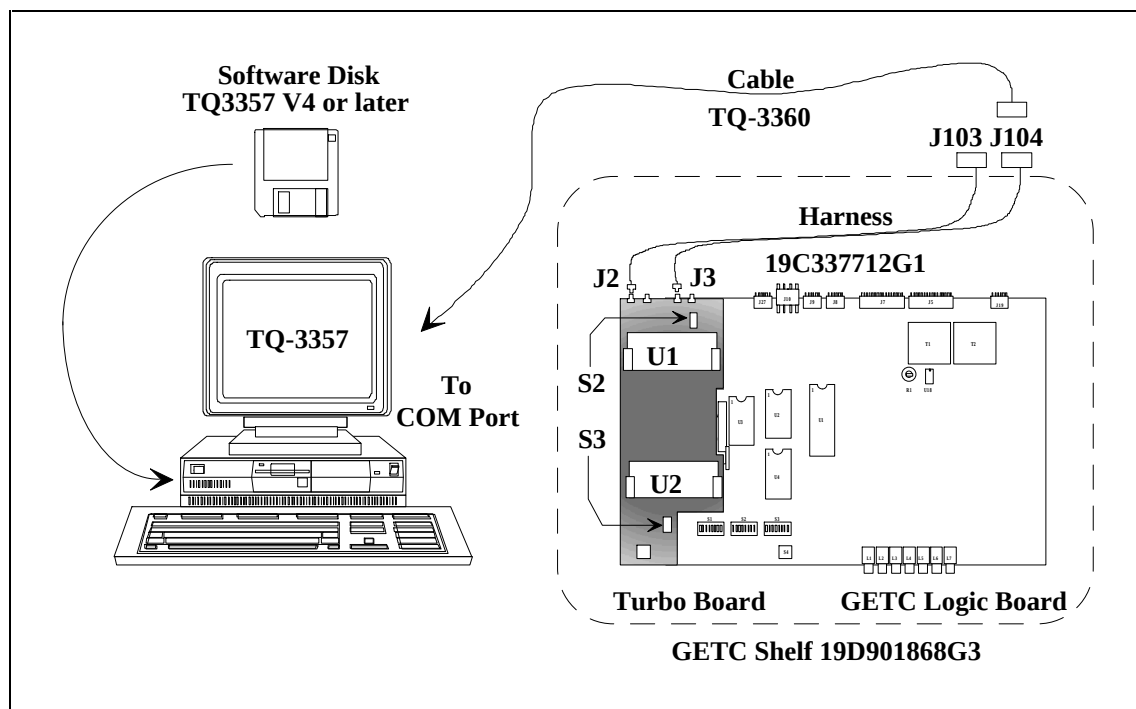

Figure 7 - System Hook-Up Using J104
- Connect one end of the serial programming cable (TQ-3360) to the computer. Connect the other end of the cable to the GETC Shelf connector J104. See Figure 7.
- Move Switch S2 on the Turbo Board to the front placing the GETC into the Personality Programming mode. See Figure 7.